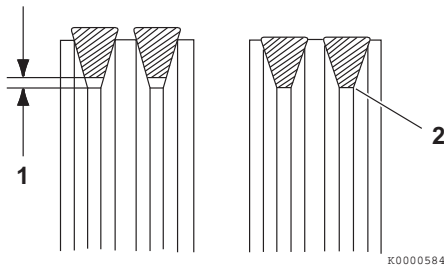

Figure 6
3. Tighten the V-belt to the proper tension. There must be clearance (**Figure 6, (1)**) between the V-belt and the bottom of the pulley groove. If there is no clearance (**Figure 6, (2)**) between the V-belt and the bottom of the pulley groove, replace the V-belt.